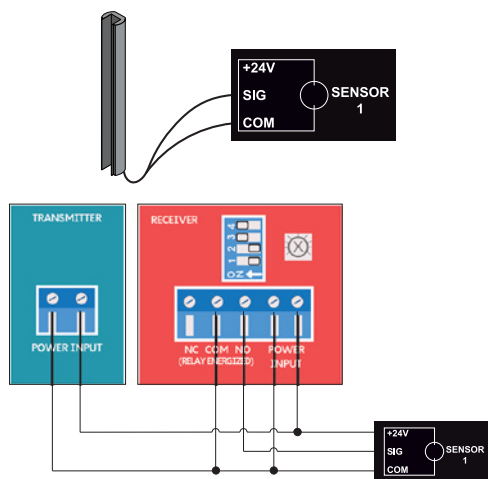

Figure 29. Bundled Sensor Connections
4. Install the wires into input Sensor #1, Sensor #2, or Input #1, Input #2, or Input #3 on the SmartTouch 720/725 Controller (Figure 29).